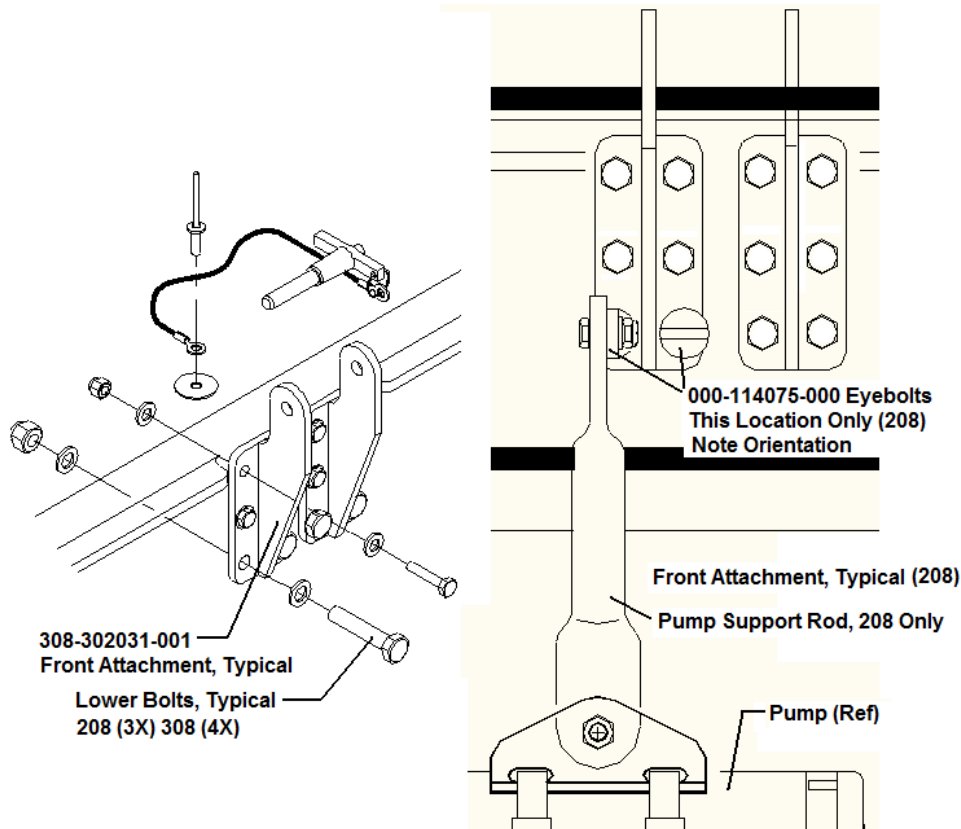
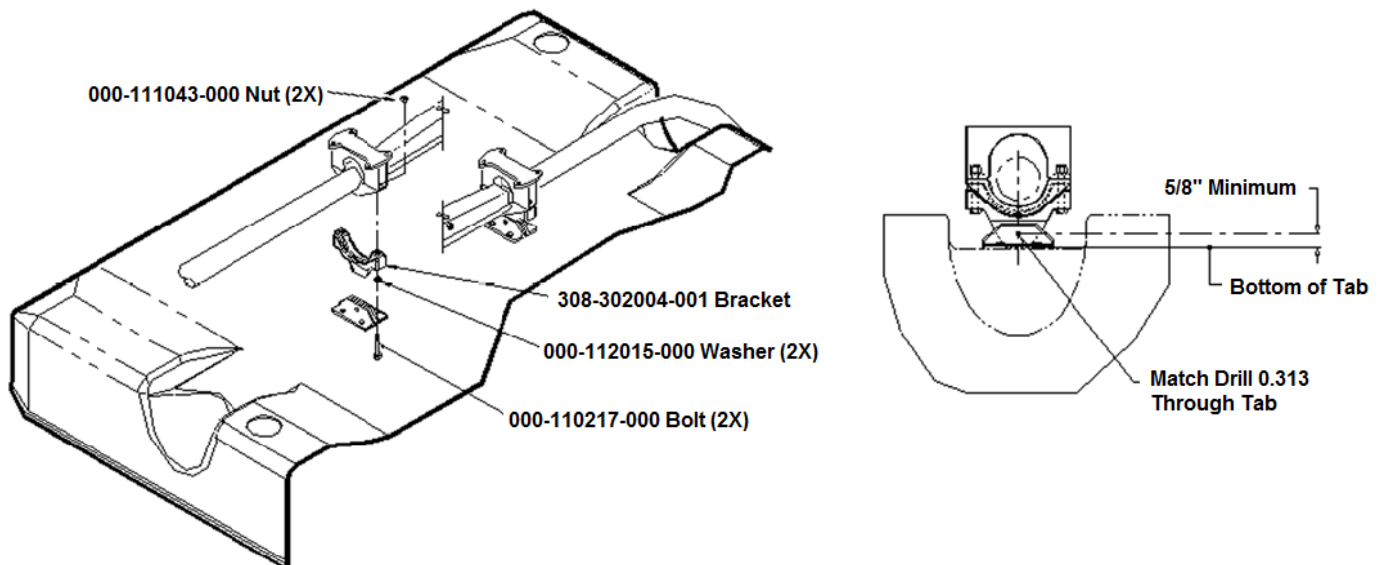

Figure 4: Front Tank Attachment Details
Figure 5: Aft Upper Hardpoint Details
32. For the 208 system, remove pump support rod (650-912004-500) shown in Figure 4 by removing bolts, washers and nuts at each end. Discard rod and hardware.
37. Position replacement brackets on tank as shown in Figure 4 with 732 Sealant and secure with enclosed bolts.
38. For the pump support bracket, clock the eyebolts as shown in Figure 4, the outer most eyebolt is vertical for the pump support and the inner eyebolt is horizontal.
42. Install 650-912004-500 pump support rod in outboard (vertical) eyebolt as shown in Figure 4 with 000-110279-000 Bolt, two (2) 000-112120-000 washers, and 000-111075-000 nuts.
43. Attach lower end of pump support rod to pump bracket with 000-110140-000 bolt, two (2) 000-112100-000 washers and 000-111045-000 nut.
45. Remove two (2) bolts washers and nuts securing each aft hardpoint bracket to rotorcraft at cross tube as shown in Figure 5.
47. With an indelible ink pin or other suitable marking device, draw a line on the tab of the 308-302004-001 bracket that measures 5/8" from the bottom of the tab as shown in Figure 5 for reference in a future step.
48. Install each replacement bracket 308-302004-001 with two (2) 000-110217-000 bolts, 000-112015-000 washers and 000-111043-000 nuts.
- i. Install each 308-302021-001 curved link to rotorcraft outboard fitting eyebolt with 000-114155-000 clevis pin, two (2) 000-112120-000 washers and a 000-114270-000 cotter pin.
57. Position tank brackets over aft hard point as shown in Figure 5. Check for proper distance from bottom of tab with marks made in Step 10.
58. Match drill 308-302004-001 hardpoint fittings ϕ 0.313 to aft brackets as shown in Figure 5.